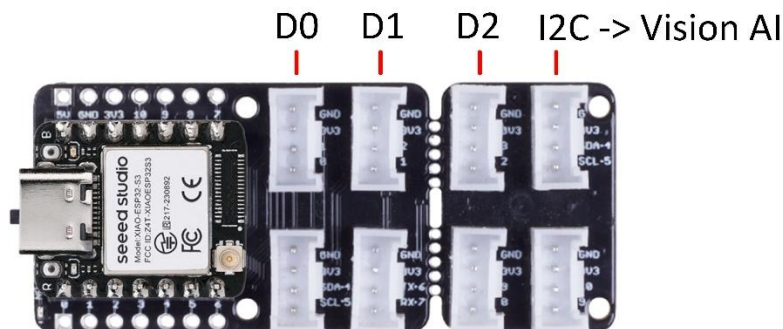
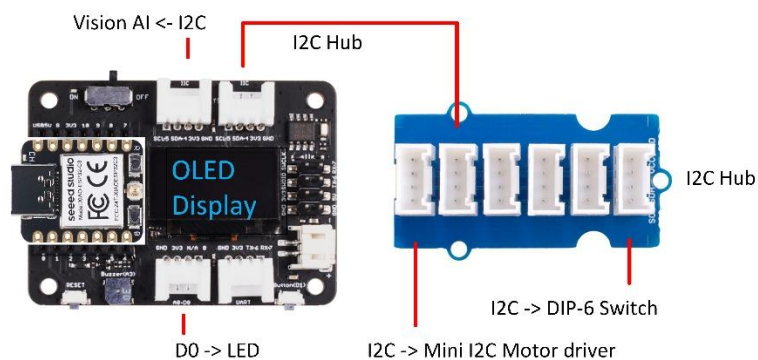

Figure 3. Wiring Experiment A of the Grove Base (or Shield) for XIAO
Figure 5. Wiring Experiment B
3. Place the **XIAO ESP32S3 module** in the **Seeed Studio Grove Base (or Shield) for XIAO** (see Figure 3. Wiring Experiment A) or the **XIAO Expansion Board** (Figure 5. Wiring Experiment B)